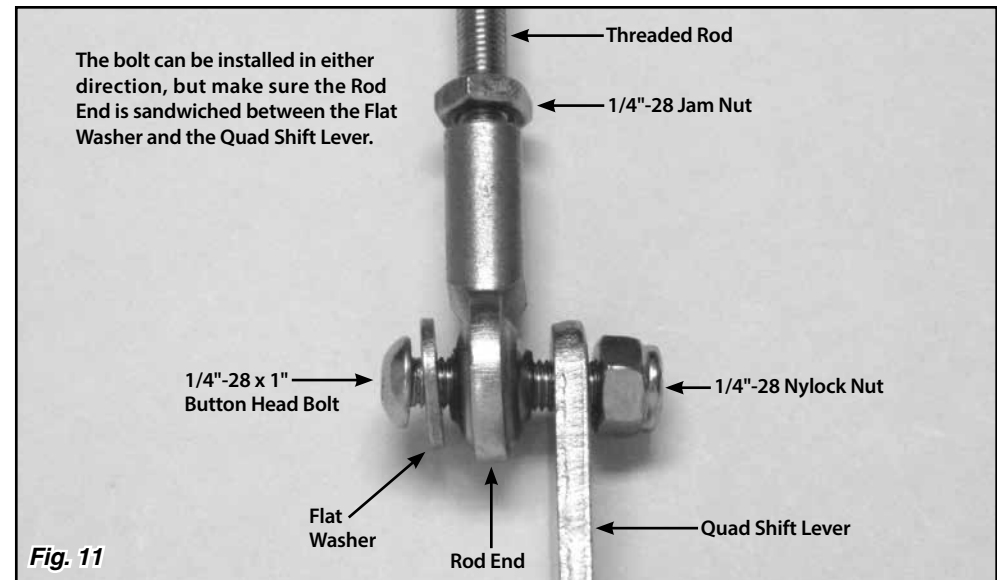

Fig. 11
Step 13: Verify both 1/4"-28 jam nuts are on the long threaded rod. Thread one end of the long threaded rod into the rod end on the linkage arm, and install a rod end onto the opposite end of the long threaded rod. Attach that rod end to the **outside** of the quad shift lever using the 1/4"-28 x 1" button head bolt, flat washers, and nylock nuts as shown in **Fig. 11**. The 1/4"-28 x 1" button head bolt can be installed from either direction, but make sure the rod end is sandwiched between the flat washer and the quad shift lever.